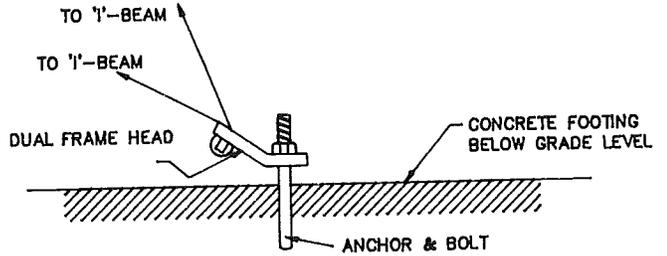

FIGURE 32
7. Connect the diagonal ties to the frame (I-beam) and the ground anchors. See figures 32, 33, and 36.